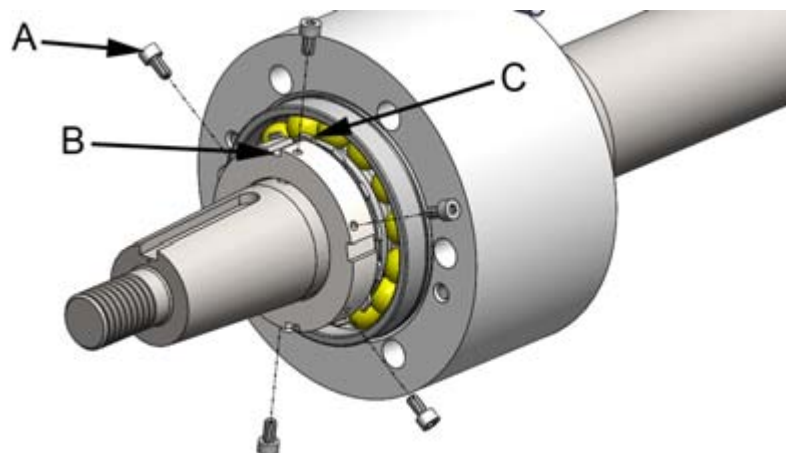

Figure 6. Shaft nut
9. Open the shaft nut screws (6 pcs, figure 6, point A) and turn the tooth of the lock washer (figure 6, point C) up from the shaft nut groove (figure 6, point B).